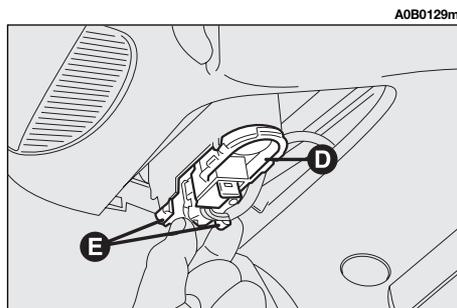

fig. 49
- Remove the bulb holder unit (**D-fig. 49**) pressing on the retainer tabs (**E-fig. 49**).
- Reinsert the bulb holder unit fitting it correctly between the retainer tabs (**E-fig. 49**).